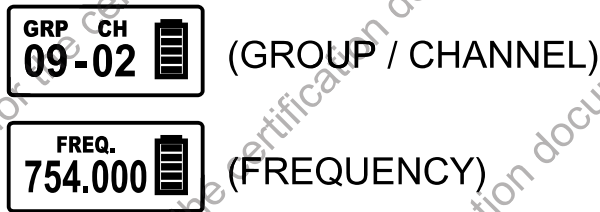

Fig. 28
(A) Group (GRP) / Channel (CH) / Frequency (FREQ.). Fig. 28:
- (1) Group / Channel / Frequency messages are displayed only and cannot be changed.
- (2) To change Group / Channel / Frequency, do it at the receiver and then press ACT button to sync.